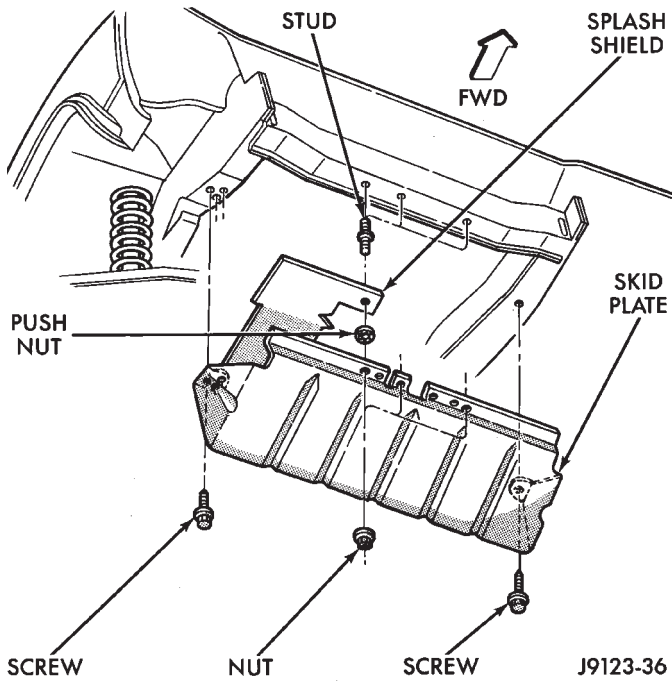

Fig. 3 Front Skid Plate Removal/Installation
- (1) Remove the screws that attach skid plate to side sills (Fig. 3).
- (2) Remove the nuts that attach the skid plate to the crossmember (Fig. 3).
- (3) Remove the skid plate from the vehicle (Fig. 3).
- (1) Position the skid plate at front crossmember and side sills (Fig. 3).
- (2) Install the nuts to attach the skid plate to crossmember.
- (3) Install the screws to attach skid plate to side sills.